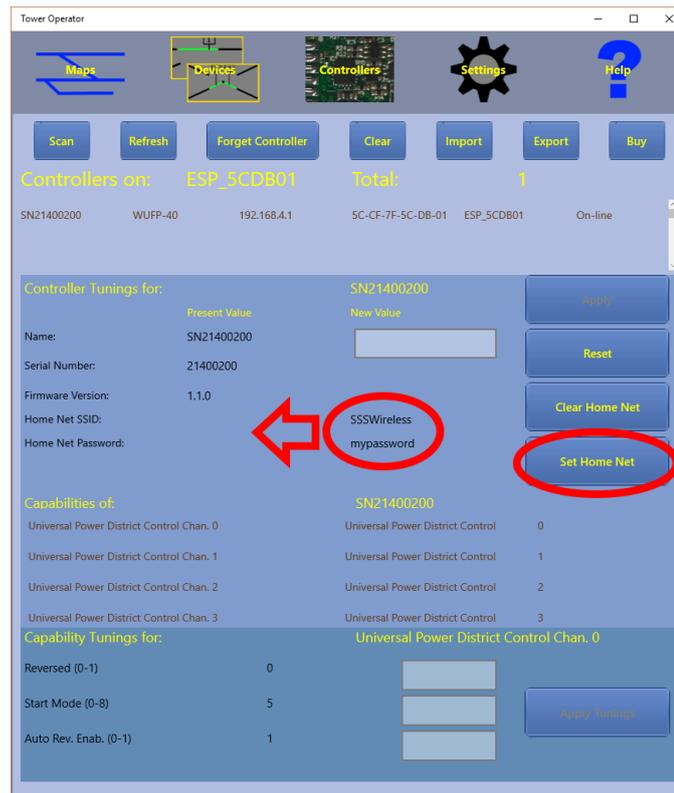

Figure 13 The WUFP-40 Controller Present on its own ESP\_5CDB01 Network. Transfer the Home Network Information to this Controller.
Your Controllers screen should now show just one controller, as in Figure 13, the WUFP-40, whose network you joined.
(14) If you only had one WUFP-40 and were happy to always connect your tablet just to its Wi-Fi network and nothing else, you could continue in direct mode. You can also use Loco Operator in direct mode and operate a simple train set for as long as you like. However, for the example described in this document, there are three WifiTrax modules and your tablet with Tower Operator installed need to deal with all of them, therefore you need to go back to the General page of the Settings screen and select your home Wi-Fi network as the operating network.
(15) Next go back to the Network Settings of your computer as you did in (12) and connect back to your home network.
(16) Now go to the Controllers screen and do a scan on your home network. You should see the controller, similar to Figure 13, but now operating as a station on your home infrastructure network.